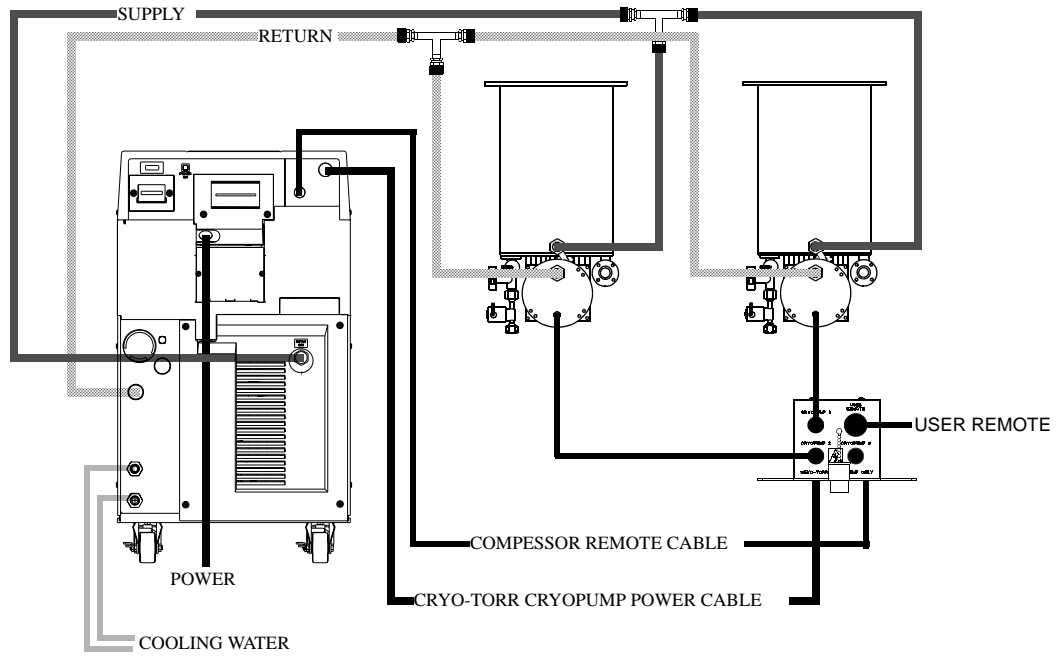

Figure 4-7: Multiple Cryo-Torr Cryopump Installation
1. Connect the Cryo-Torr power cable between the CRYOPUMP POWER CONNECTOR on the rear panel of the 9700A Compressor and the CRYOPUMP ELECTRICAL INPUT on the Cryo-Torr Interface as shown in Figure 4-7.